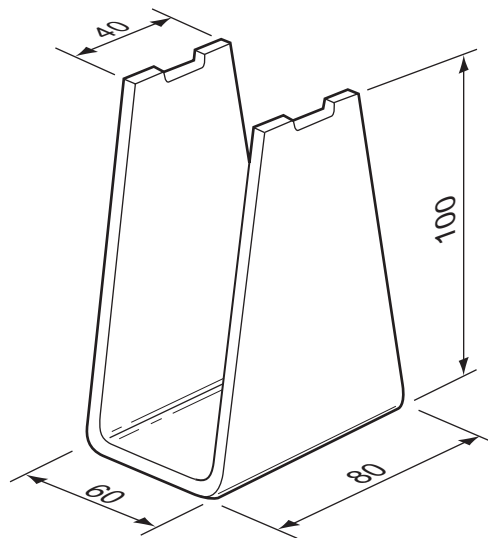

Fig. 10
- (a) Fig. 10 shows details of the aluminium support.
- (b) Use sketches and notes to show how the aluminium sheet in (a)(i) could be bent to the shape of the support shown in Fig. 10.